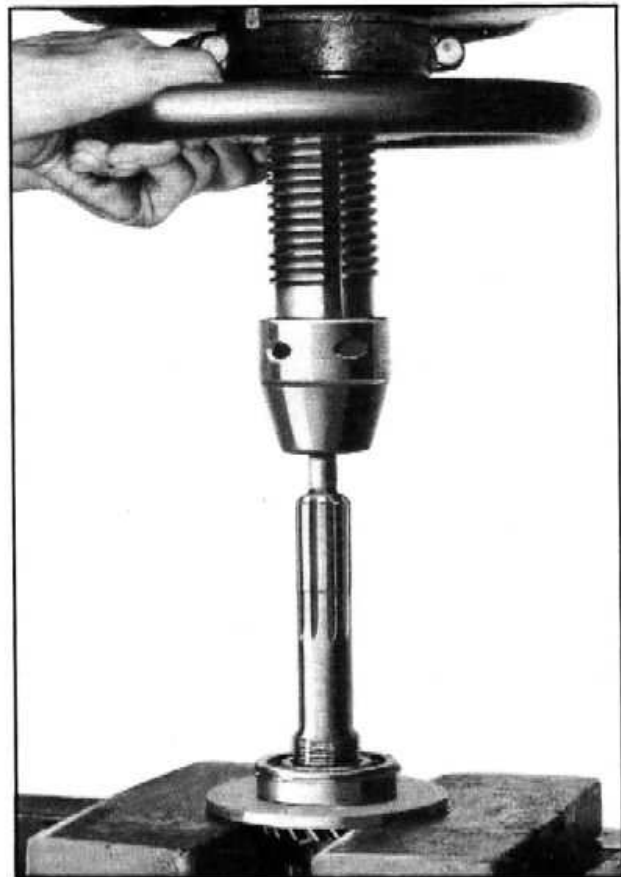

Fig. 8—Removing Clutch Gear Bearing
- To remove the clutch gear bearing, place the special press plate, J-936, over the gear and against the bearing. Using an arbor press, press the shaft out of the bearing, Fig. 8.